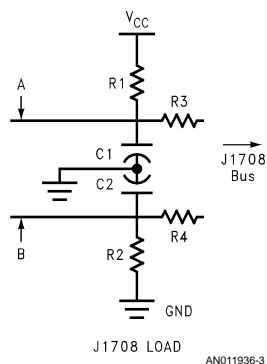
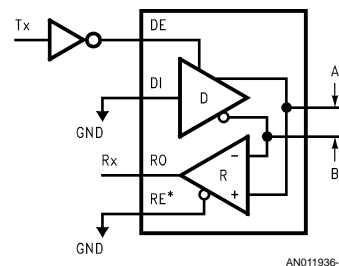

FIGURE 3. Node Load Circuit
FIGURE 4. The DS75176B in a SAE J1708 Application
The recommended implementation for a SAE J1708 load is shown in *Figure 3*. The recommended implementation for a SAE J1708 system using a standard RS-485 transceiver, such as the DS75176B (see *Figure 4*), is shown in *Figure 7*. The circuitry between the bus and the transceiver differs from RS-485 and is intended to provide several features:
The resistor and capacitor values are as follows and are shown in *Figure 3*:
The drivers used by SAE J1708 are used in a dominant mode application. The driver's input (DI) is tied LOW and the signal (Tx) to be transmitted is tied to the driver's enable. The enable (DE) is active HIGH for the DS75176B while the enable (DE*) for the DS36277 is active LOW. First, this information is very important because this tells us that the driver is only capable of driving LOW. Therefore, a logic level LOW is encoded as "dominant". When the driver is disabled, the bus is pulled high by external bias resistors R1 and R2 (as shown in *Figure 3*). Thus, a logic level HIGH is encoded as "recessive". Second, if the driver's enable is active LOW, then you will transmit positive logic. But, if the driver's enable is active HIGH you will transmit negative logic. SAE J1708 is only defined for positive logic. Therefore, to implement a SAE J1708 application using DS75176B, which has an active HIGH driver enable, an inverter is needed for the driver enable (see *Figure 4* and *Figure 6*). However, the active LOW driver enable pin on the DS36277 saves the user an externally needed inverter (see *Figure 5*).
SAE J1708 requires all receivers to listen to every message identification character transmitted to determine if contention exists. Unlike the driver, the receiver's enable (RE*) is always tied LOW (see Figure 4 and Figure 5). This means the receiver is always in listen mode (see Explanation of Terms).
The external components shown in Figure 3 provide the necessary bias for a logic High "recessive" state. SAE J1708 requires no additional external components other than the J1708 load. This means that no parallel termination can be used at the ends of the SAE J1708 bus. The required loading also provides failsafe protection.